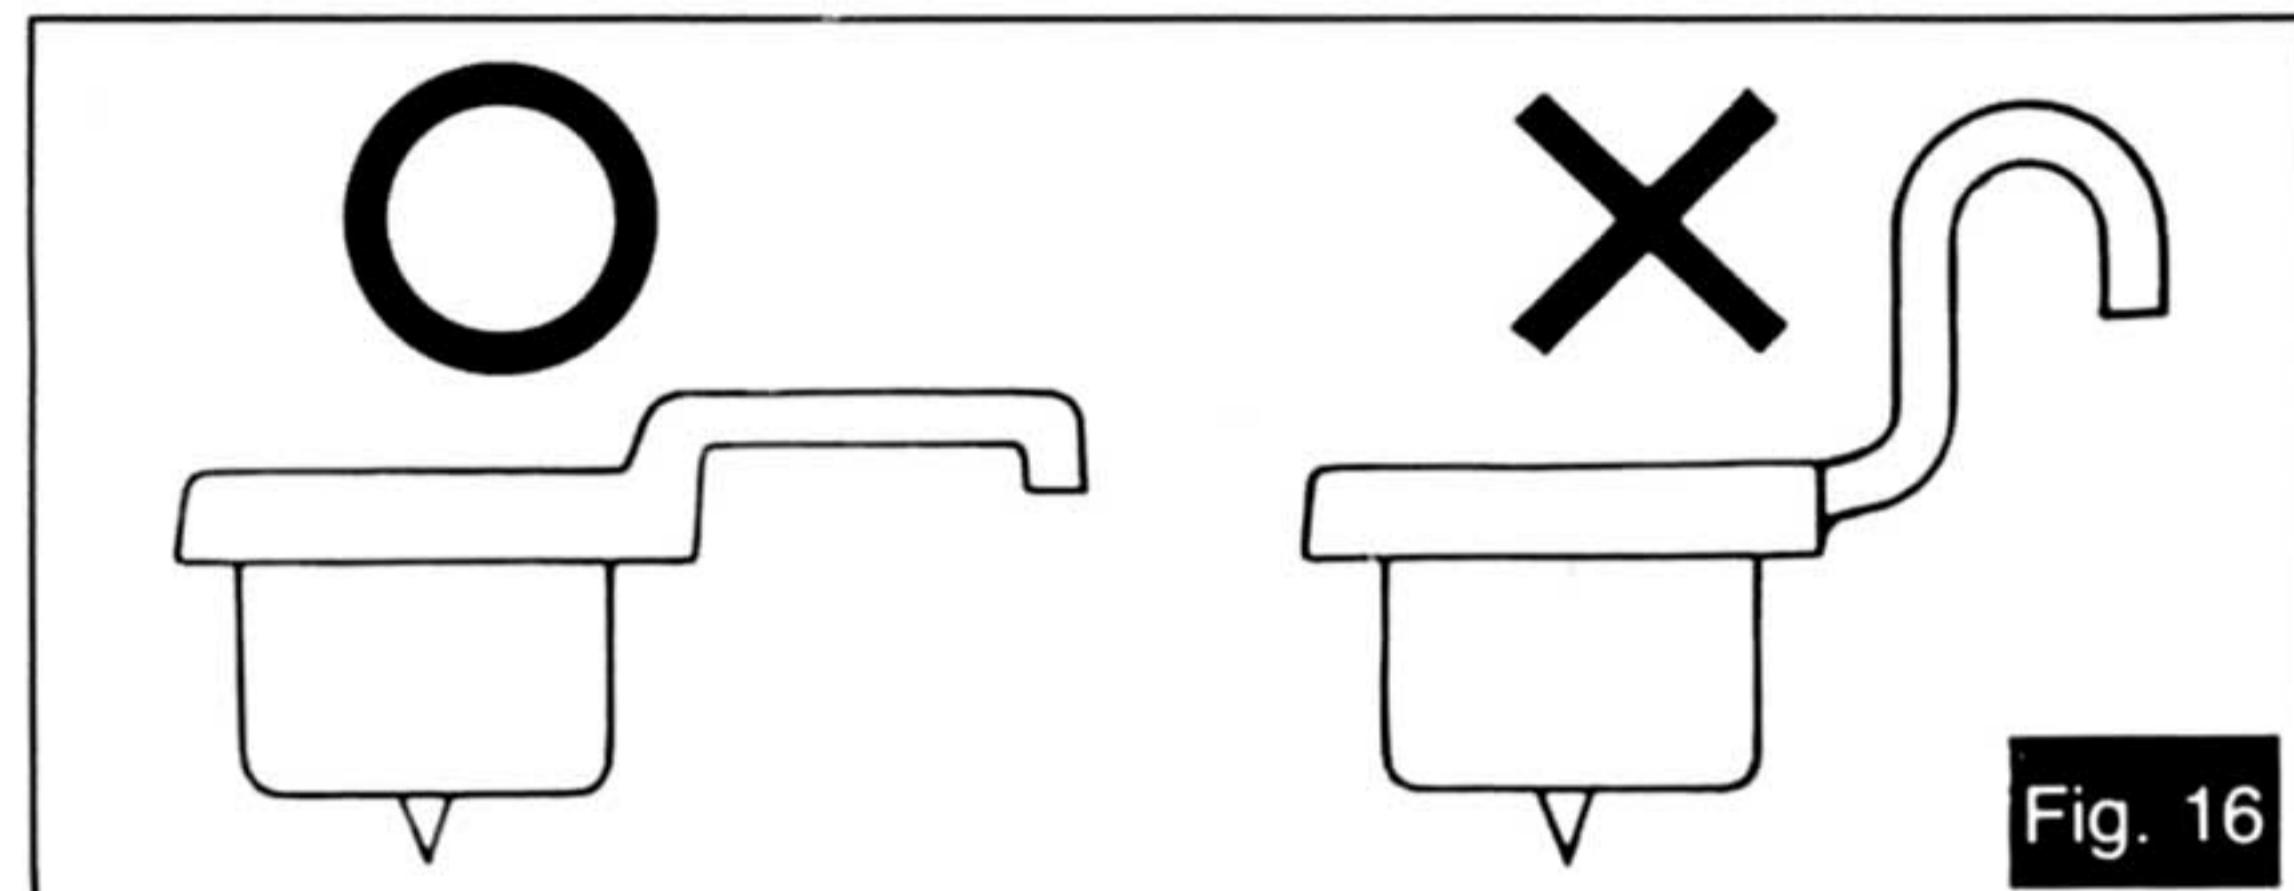

Fig. 16
① Do not grasp or hold the tonearm during operation of the automatic-return mechanism.
② When you use other headshells, check the headshell configuration for compatibility. (See Fig. 16.)